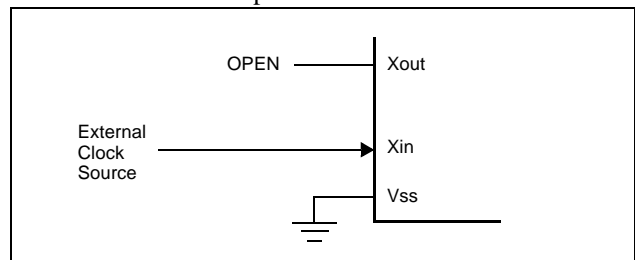

**Figure 10-2** Oscillator Connections
XIN and XOUT are the input and output, respectively, a inverting amplifier which can be set for use as an on-chip oscillator, as shown in Figure 10-2 .
- Note:** When using a system clock oscillator, carry out wiring in the broken line area in Figure 10-2 to prevent any effects from wiring capacities.